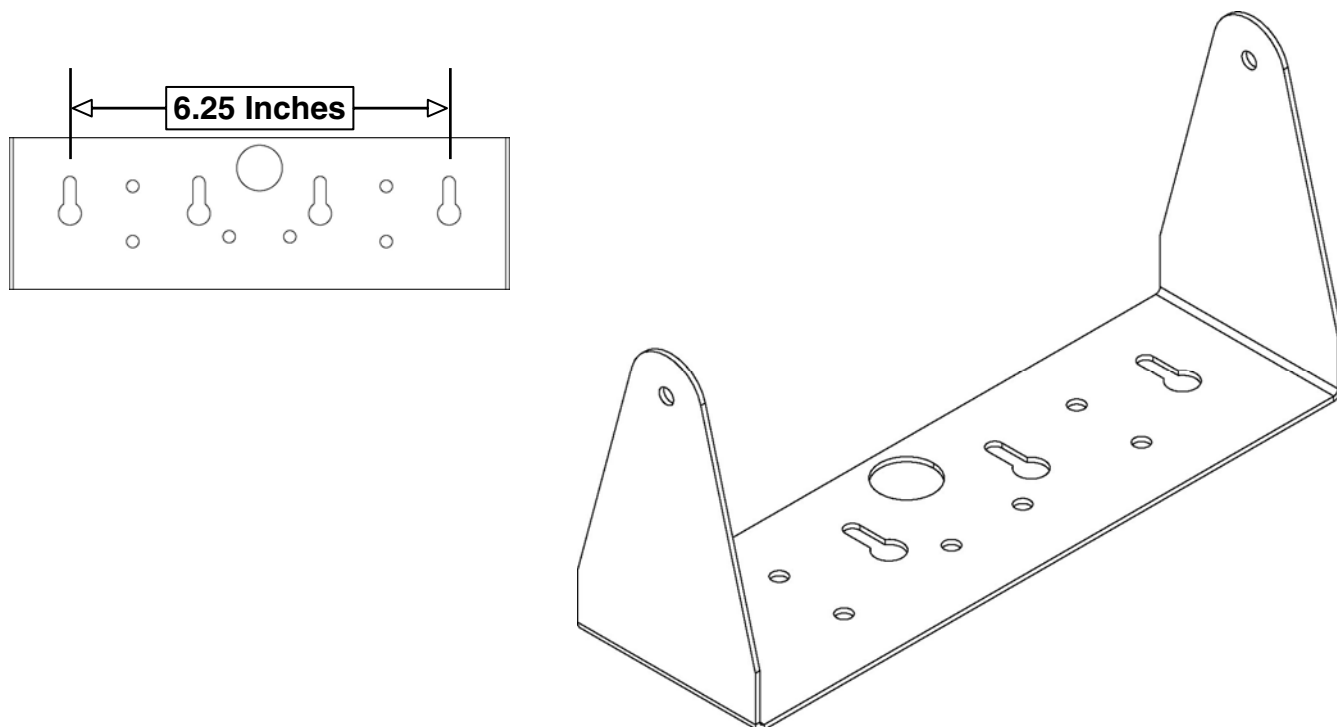

Figure No. 1
Begin the installation by deciding where the indicator is to be mounted. The indicator may come mounted on a column or you may choose to mount it on a desktop or wall. Refer to Figure No. 1 for illustrations of the mounting bracket. Two (2) holes are located in the mounting bracket for attachment to the wall. This bracket may be removed or left in place for desktop use.
The indicator may be mounted on a desktop or other smooth, flat, horizontal surface or it may be mounted on a wall using two (2) #10 screws placed 6.25 inches apart on the wall. Refer to Figure No. 1.